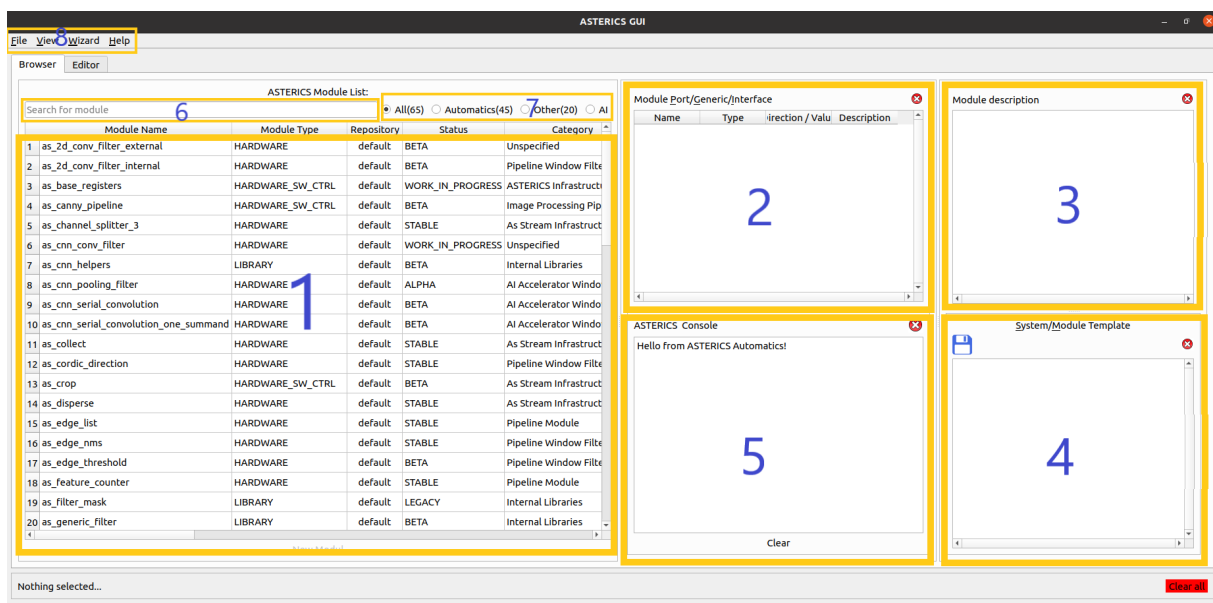
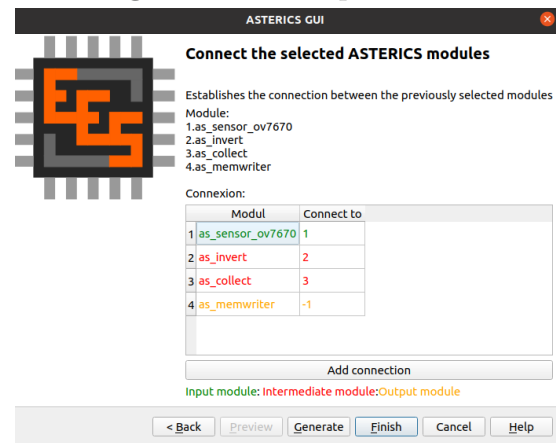

Figure 6.2.: GUI main view
Figure 6.8.: Connect modules
As it can be seen in the figure 6.2, the main GUI view is divided into smaller views with different goals. In the following, the different functionalities of these subviews will be described:
4. Figure 6.8: Now the selected *ASTERICS* modules should be connected. In this view, all modules involved in the image processing chain are listed, and then how these modules are connected is shown in a table. In green is the input module (currently only one input module can exist in the chain, so it cannot read data from different input sources into one chain), in red are the intermediate modules (modules that process the input), and in yellow is the output module. The connection between two modules is shown in the column "connect to". The first row in the table from the figure 6.8 means that the input module `as_sensor_ov7670` is directly connected to the module `as_invert`. The number in the column "connect to" must always be added by one to find the corresponding module or row from the table. The number in the "connect to" column are not fixed and can be adjusted. -1 means that the output of the module will not be processed further, the -1 is intended for the output module. To generate the system, click on the button "Generate" or "Finish". The generated script is located in the 4th view of the figure 6.2 and can then be customized and saved. See Section 6.2.2.3 for further processing of the generated script
This section explains how to use the generated script. The generated script is located in the 4th view of Figure 6.2 after clicking the "Generate" or "Finish" button of the wizard. To save the script, you should click on the icon of the 4th view, which is the "Save As" button. You can manually customize the generated script again in your favorite editor after saving it. The script must be saved as Python file. Depending on whether the script was created from scratch or came from a demo system, the script will look different, especially when selecting the output products. Assuming that the script is saved under the name "asterics-gen.py":